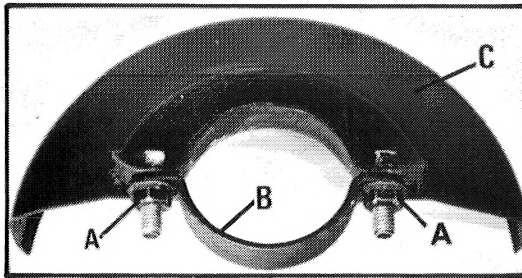

Fig. 5
3. Loosen clamp nuts (A) Fig. 5, and slip guard clamp (B) over gear housing cover collar.
5. Firmly tighten clamp nuts (A) Fig. 5.